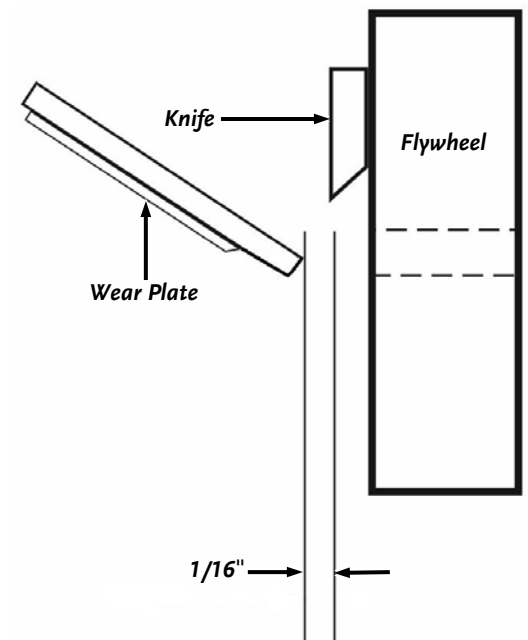

Figure 24
When you replace the Knife, check and set the clearance between the Knife and Wear Plate. Set this clearance or gap to 1/16" (**Figure 24**). If the gap between the Wear Plate and the Knife is not set correctly, you will have excessive vibration when chipping and the Knife will seem to be dull. The Wear Plate should have a square edge and be free of dents or gouges. The Wear Plate can be hand sharpened. Be careful not to overheat it during the sharpening process. This will change the characteristics of the steel and you will then have to replace the Wear Plate.
5. Tighten the Nuts when the Wear Plate is at the correct distance from the Knife (**Figure 24** on page 21).